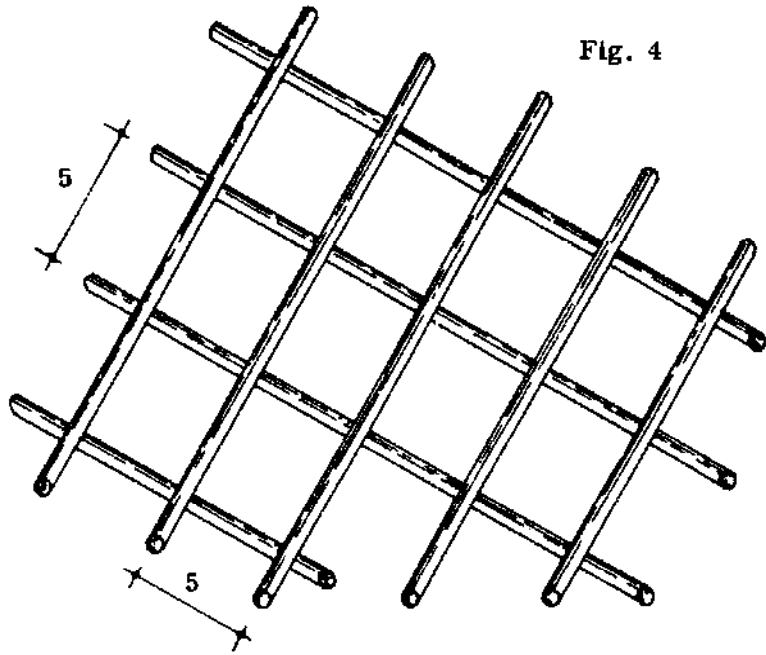

Fig. 4
- **STEEL WIRE NETTING:** The most common steel wire netting (Fig. 4) has square meshes measuring 5 by 5 cm and is manufactured in the same way as reinforcement mats. The same kind of wire mesh can also have oblong meshes.